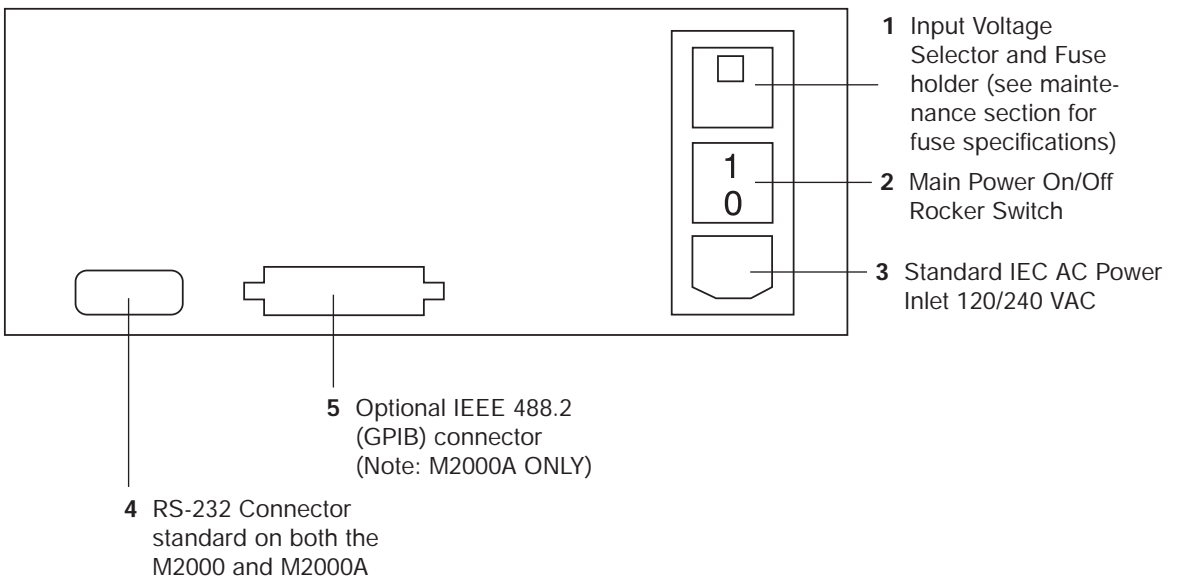

Figure 2
2. **Before** attaching the power cord to the rear connector the voltage selector must be set to the proper line voltage. To do this, remove the rear fuse cover found just above the On/Off rocker switch (see Figure 2, item #1). Pull out the voltage selector connector and set it for the proper line voltage using the following guidelines: